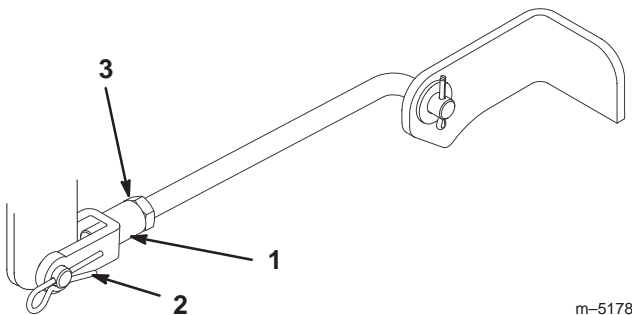

Figure 41
7. To adjust the front-to-rear blade slope, remove the hairpin cotter from the front trunion yokes and loosen the jam nuts (Fig. 41).
8. Rotate the yokes on the rods to change the adjustment (Fig. 41). To raise the front of the mower, tighten the yokes (shorten the rods). To lower the front of the mower, loosen the yokes (lengthen the rods).